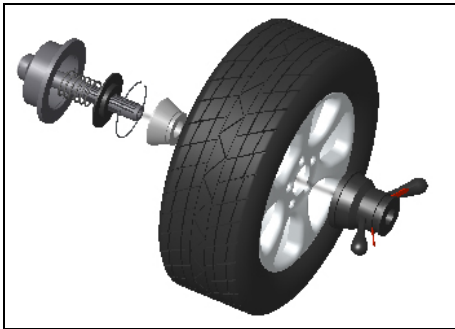

Figure 6-1
6.2.2.1 Positive positioning (refer to figure 6-1):